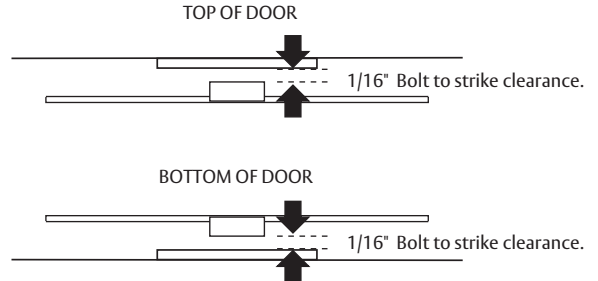

Figure 15
- With the door hung, measure the clearance between the top and bottom bolts and strikes. (Figure 15)